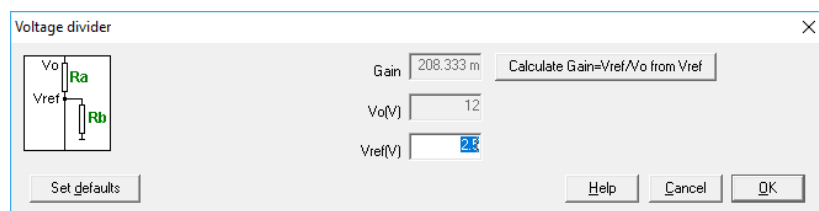

Figure 6: outer loop sensor
- Sensor: select a voltage divider sensor. See Figure 6.